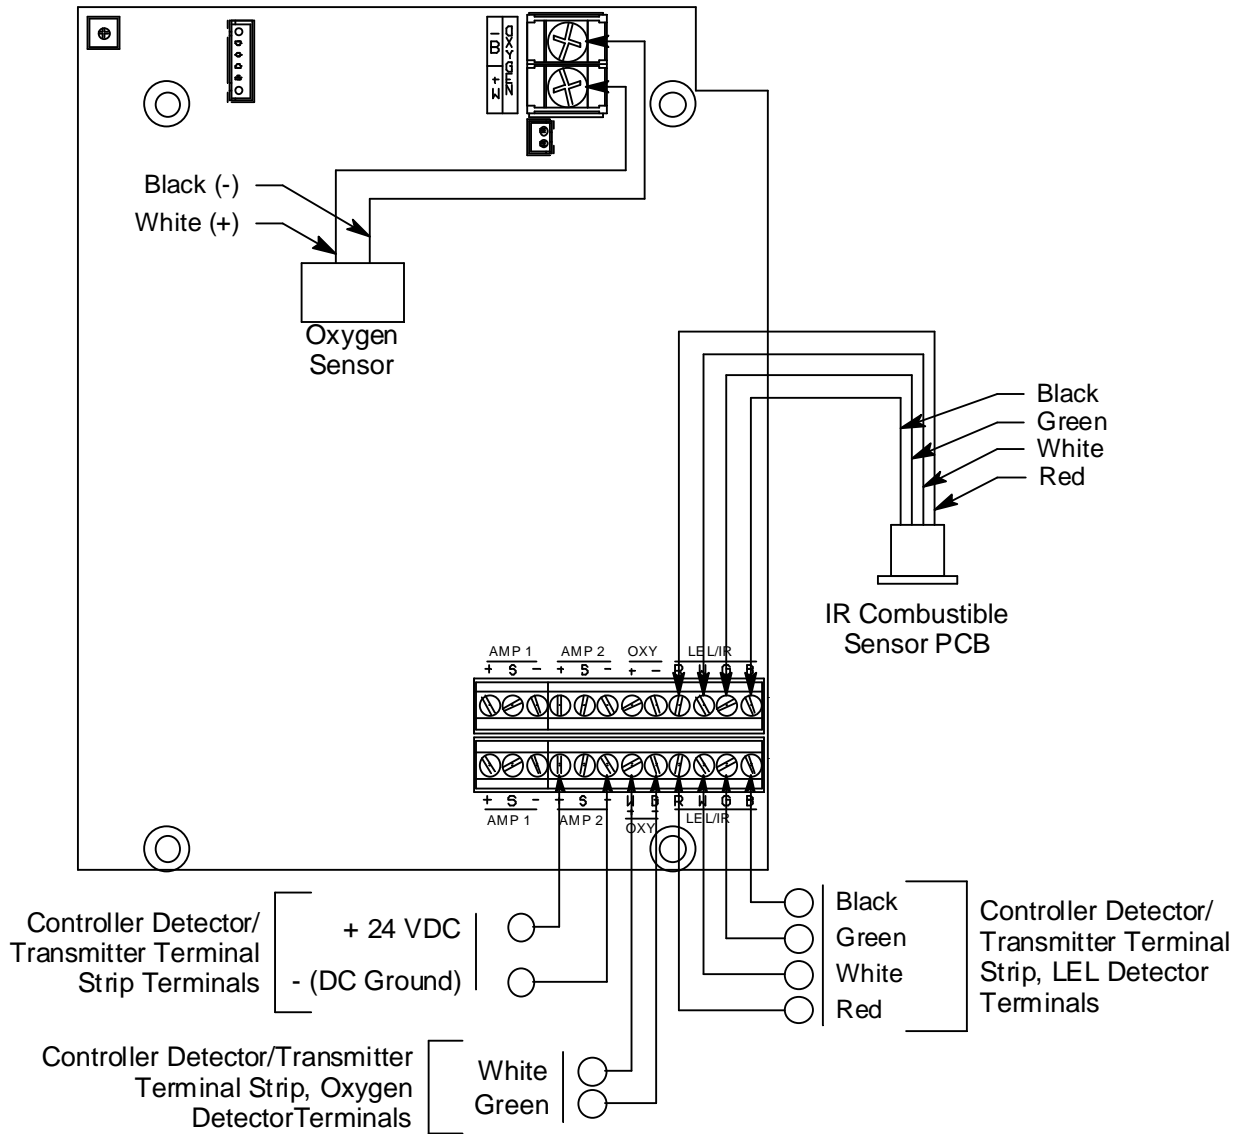

Figure 4: Wiring the Sample-Draw Detector to a Controller
5. Connect the cable to the sample-draw detector’s interconnect terminal strip as shown in Figure 4.
8. Connect the wires to the applicable detector/transmitter terminal strip at the controller as shown in Figure 4. Refer to the controller operator's manual and the controller detector head specification sheet for the 35-3001-06-01 for detector/terminal strip connections specific to the controller.